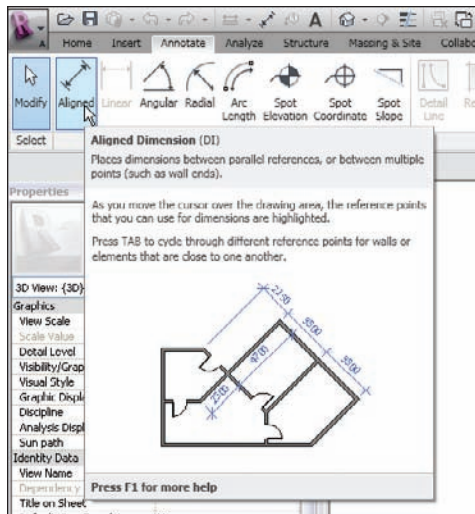

FIGURE 5.1 Starting the Dimension command from the Annotate tab
3. On the Annotate tab, click the Aligned button, as shown in Figure 5.1.